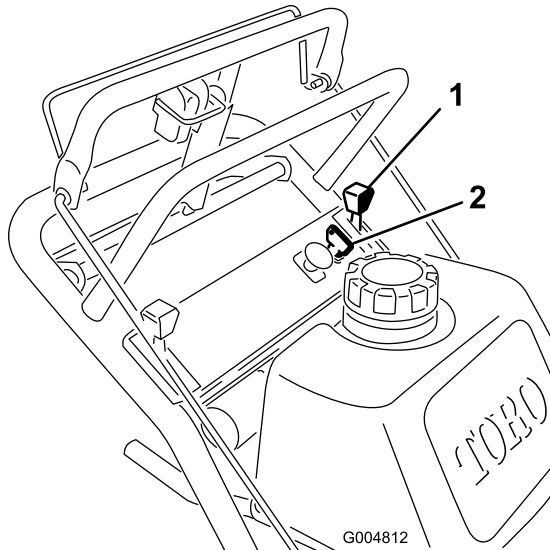

Figure 8
1. Move the throttle lever to the **slow** position (Figure 8).
3. Turn the ignition key to **off** (Figure 8).